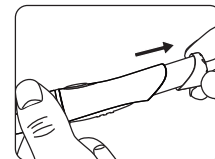

Figure 11
STEP 6: Cock the Lancing Device. Slide the ejection/cocking control back until it clicks. If it does not click, the Lancing Device may have been cocked when the lancet was inserted. *See Figure 11.*